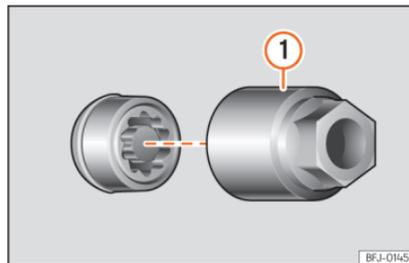

Fig. 37 Anti-theft wheel bolt with cap and adapter.
- Insert the special adapter »» Fig. 37 ① (vehicle tools »» page 37) onto the anti-theft wheel bolt and push it on as far as it will go.